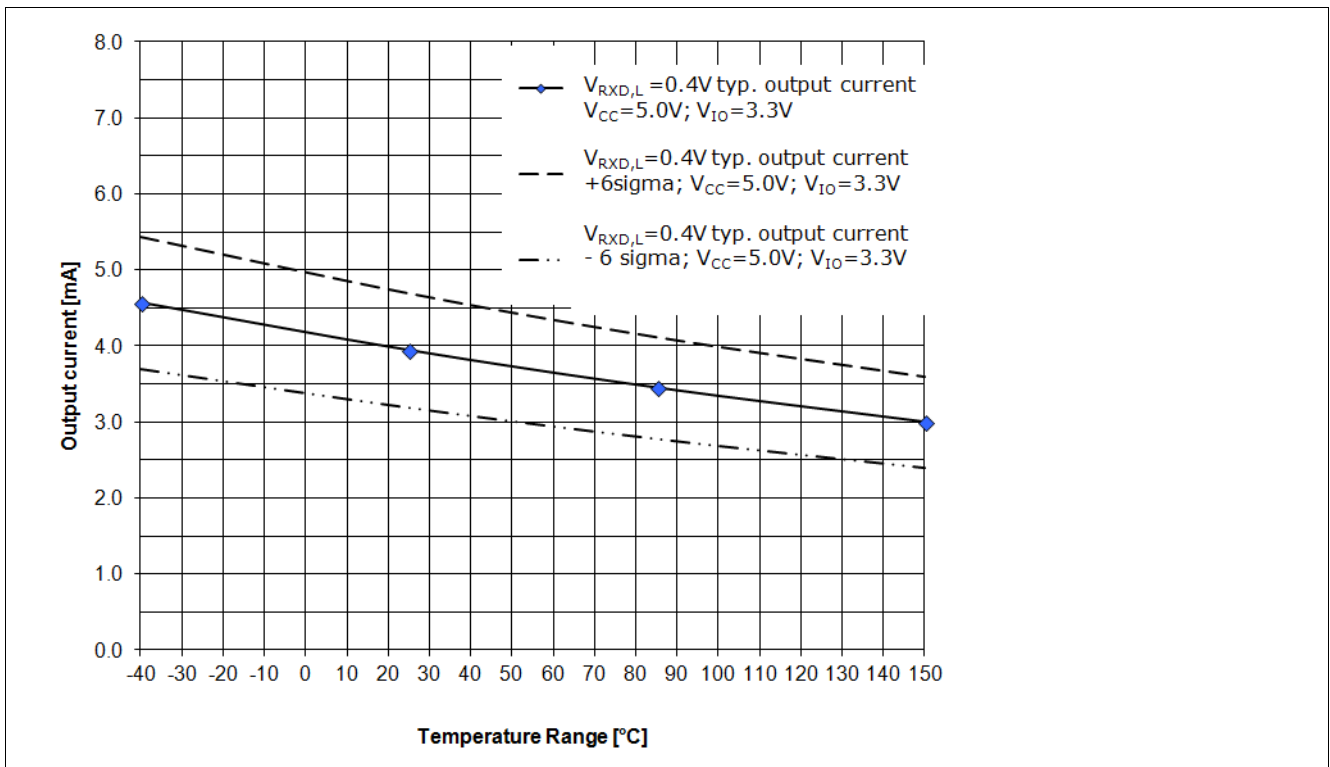

Figure 14 RxD Output driver capability for a logical “Low” signal ( $V_{RxD,H}=0.4\text{ V}$ ,  $V_{CC}=5.0\text{ V}$ ,  $V_{IO}=3.3\text{ V}^1$ )
The diagram in Figure 13 and the diagram in Figure 14 show the current capability of the RxD output pin depended on the chip temperature  $T_J$ . Figure 13 shows the current capability of the RxD output pin at a  $V_{IO}$  power supply of 5.0 V and Figure 14 shows the current capability of the RxD output pin at a  $V_{IO}$  power supply of 3.3 V.
- The curve “VRxD,H = 0.4 V; **typ. output current**; VCC = 5.0 V; VIO =3.3 V;” displays the typical output current at the RxD output pin of the TLE8250GVIO (see Figure 14).
- The curve “VRxD,H = 0.4 V; **typ. output current + 6 sigma**; VCC = 5.0 V; VIO =3.3 V;” displays the expected maximum value of the output current at the RxD output pin (see Figure 14).
- The curve “VRxD,H = 0.4 V; **typ. output current - 6 sigma**; VCC = 5.0 V; VIO =3.3 V;” displays the expected minimum value of the output current at the RxD output pin (see Figure 14).